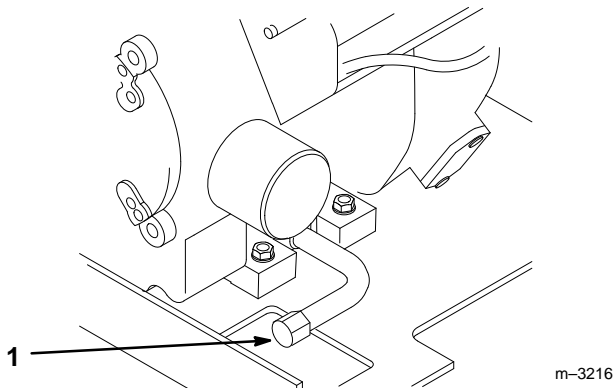

Figure 17
3. Place a pan below the oil drain. Remove the oil drain cap (Fig. 17).
4. Place a pan below the oil drain. Remove the bottom plug (Fig. 17).